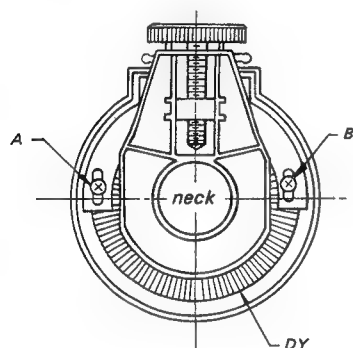

Fig. 3-15.
1. Loosen the two screws labeled A and B in Fig. 3-15.
4. Secure the yoke in position by tightening the screws labeled A and B in Fig. 3-15. Tighten the clamp band.